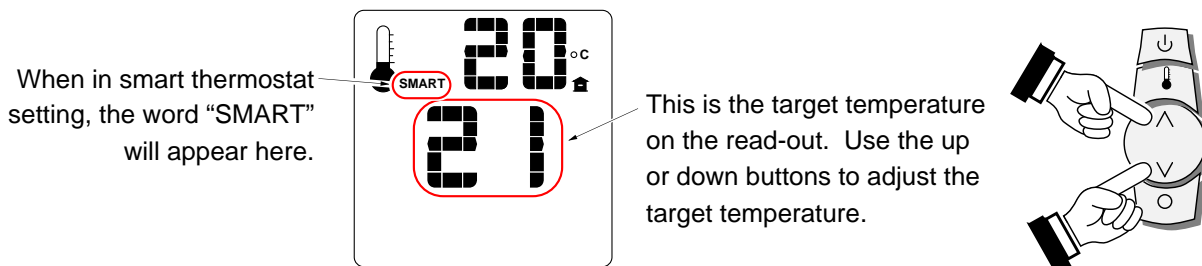

Figure 6
- **SMART THERMOSTAT** – While in smart thermostat, the transmitter will control the burner to achieve the target temperature (see Figure 6 below). Flame height will be adjusted up or down to allow operation without turning the burner on and off (also called "smart modulation"). To adjust the target temperature, press the up and down buttons until a suitable temperature is achieved.